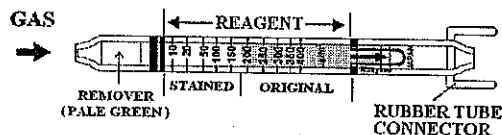

Fig.1
- ① Break both ends of the detector tube with attached ampule cutter.
- ② Connect the detector tube into the rubber tube connector of the Model S-20 series air sampler as shown in Fig. 1 (Arrow mark shall point to the sampler.), and fix it into the detector tube holder.
- ③ Turn ON power of the air sampler.
- ④ In accordance with instruction manual of each air sampler, preset the TIMER at 60 minutes and adjust the flow rate at 200mL/min.
- ⑤ After completion of sampling (60 minutes), remove the detector tube from the tube holder and read the scale at the maximum point of a stained layer. True concentration of Acetic acid and / or Formic acid can be obtained after temperature correction respectively.
- ⑥ When the concentrations are over the scale range (400  $\mu\text{g}/\text{m}^3$ ), 30 minutes sampling time can be used to determine these higher concentrations.